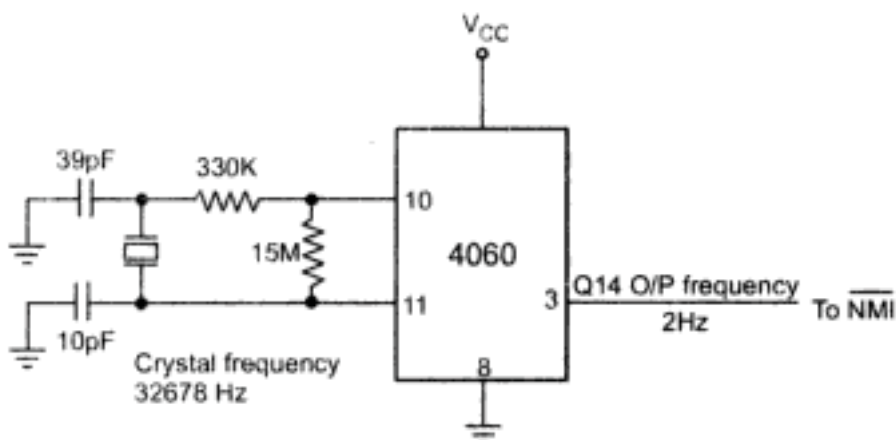

Fig. 8.17 Interrupt generation circuit
**Solution : Hardware :** The Fig. 8.17 shows simple circuit that generates interrupt request after every 0.5 sec.